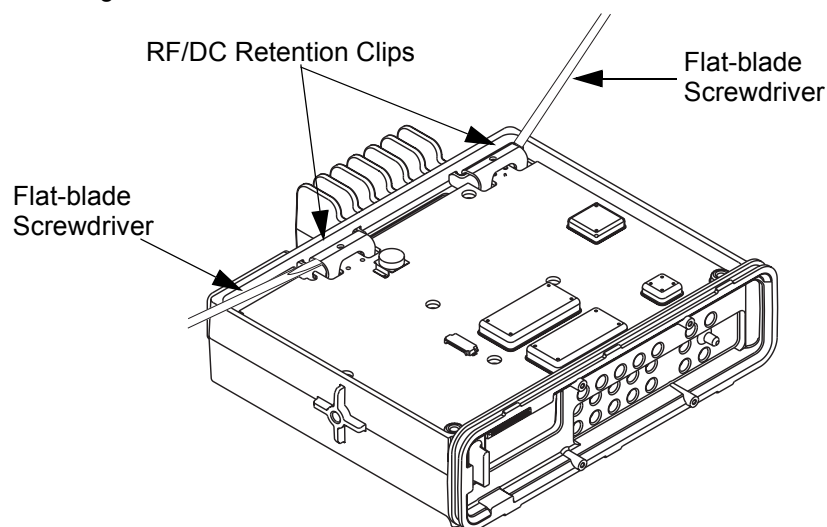

Figure 5-6 RF/DC Retention Clips Removal
4. Remove the RF/DC retention clips by gently prying them out with a flat-blade screwdriver as shown in Figure 5-6.